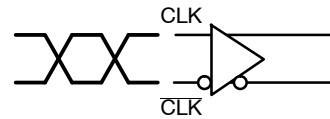

Figure 11. Differential Inputs Driven Differentially
**Differential Inputs Driven Differentially** (see Figures 11 & 13) (Note 9)